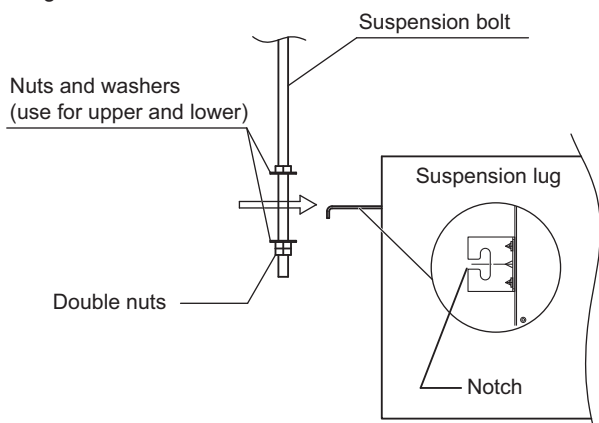

Fig. 1-112
- (3) Thread the 3 hexagonal nuts and 2 washers (field supply) onto each of the 4 suspension bolts (Figs. 1-112 and 1-113).